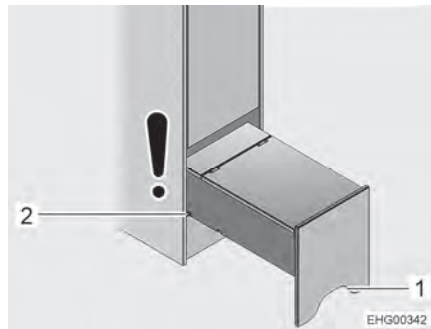

Fig. 79 Access assistance (fully pulled out)
- Grab the access assistance by the cut-out (Fig. 79,1), lift it slightly and pull it out up to the second groove (Fig. 79,2).